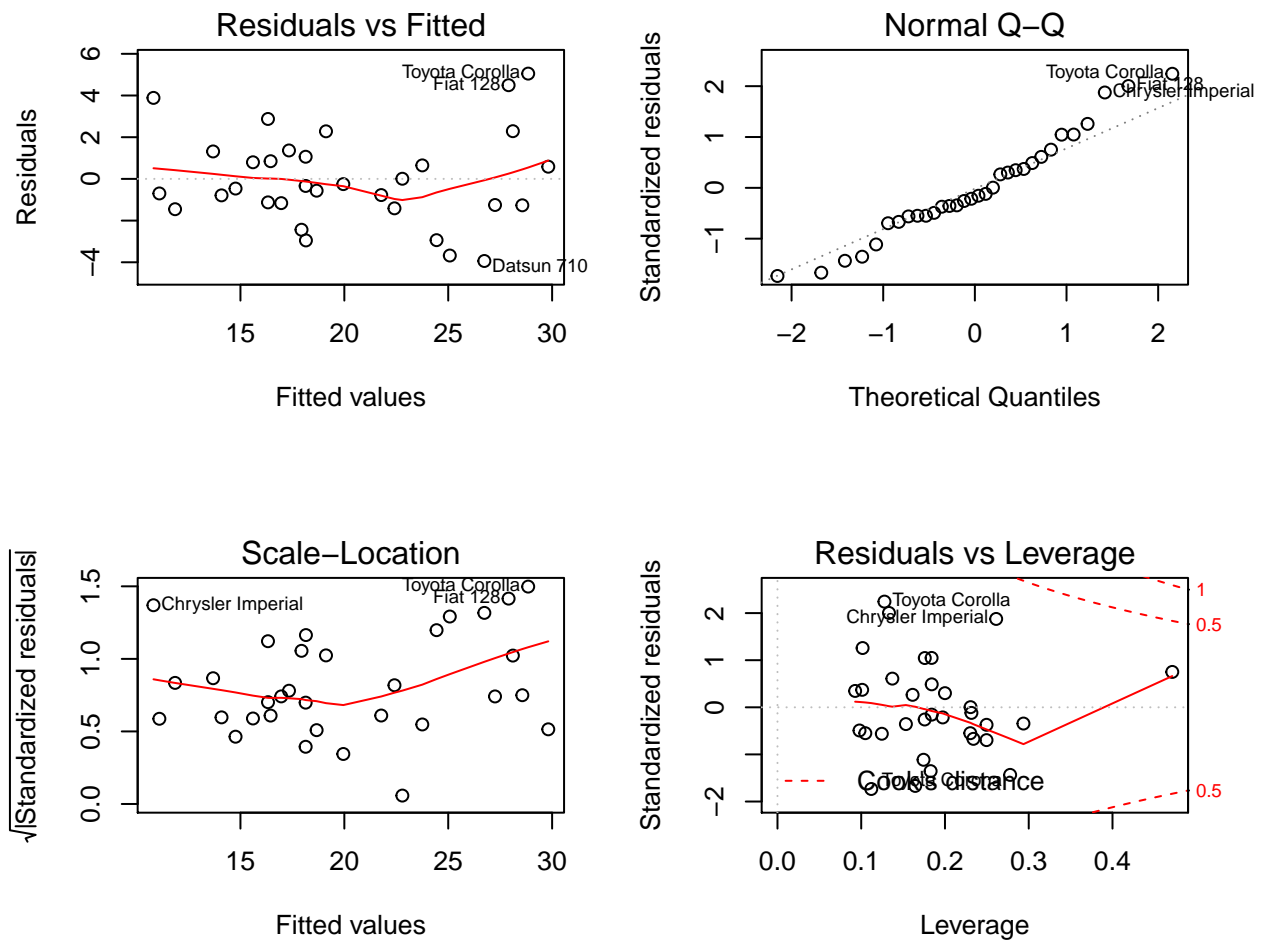

Figure 2: Residual Analysis Plots.
**Figure 2** (see appendix) overviews several diagnosis tests regarding the studied model's residuals. *Residuals are close to a normal distribution*, plus they do not have a systematic pattern which validates the regression model. There are a few points that have a larger leverage, but their standardized residual is smaller than *Cook's distance*. Below you can find the top three cars for the following influence measures: absolute DFFIT value; absolute residual and the leverage - these cars can be evaluated as potential outliers.